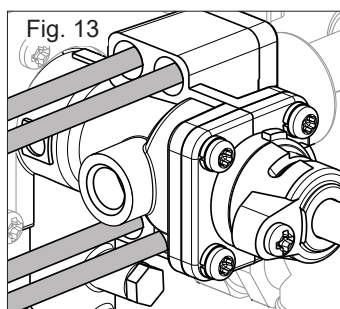

Fig. 13
- Remove the 4 screws shows in fig. 13